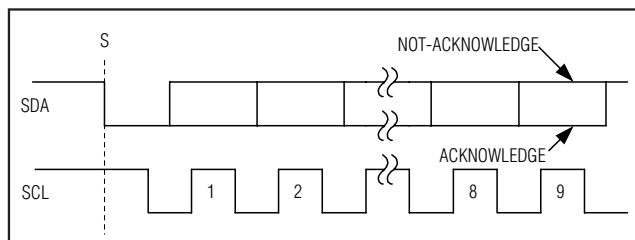

Figure 6. Acknowledge Bits
Data transfers are acknowledged with an acknowledge bit (A) or a not-acknowledge bit (\bar{A}). Both the master and the MAX11644/MAX11645 (slave) generate acknowledge bits. To generate an acknowledge, the receiving device must pull SDA low before the rising edge of the acknowledge-related clock pulse (ninth pulse) and keep it low during the high period of the clock pulse (Figure 6). To generate a not-acknowledge, the receiver allows SDA to be pulled high before the rising edge of the acknowledge-related clock pulse and leaves SDA high during the high period of the clock pulse. Monitoring the acknowledge bits allows for detection of unsuccessful data transfers. An unsuccessful data transfer happens if a receiving device is busy or if a system fault has occurred. In the event of an unsuccessful data transfer, the bus master should reattempt communication at a later time.